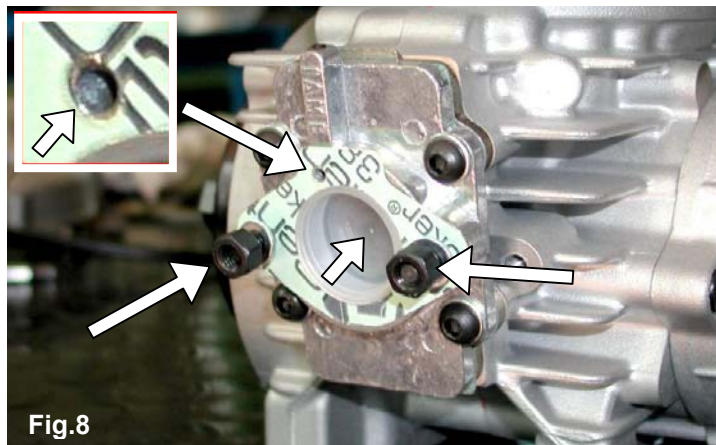

Fig.8
3.4.5 INSTALL THE CARBURETOR (SEE FIG. 8 / 9).